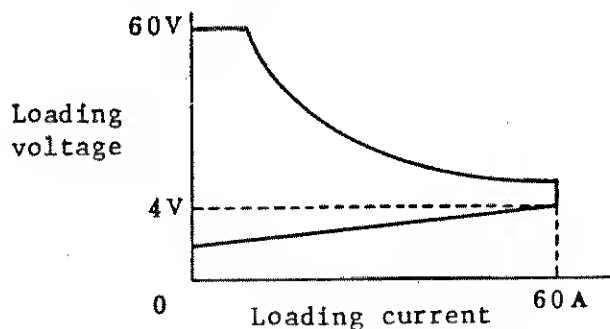

Figure 2-1-1
- o The range of loading voltage to be applied is between 4 V and 60 V. (See Fig. 2-1-1).